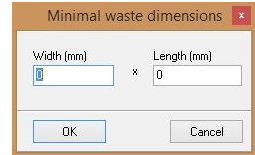

Fig. 33 – setting minimal waste size
- **‘Minimal waste dimensions’** – opens a dialog box in which you can define the minimal dimensions, after exceeding which the wastes will be automatically moved to the magazine or to the list of available sheets in the current project (Fig. 33).